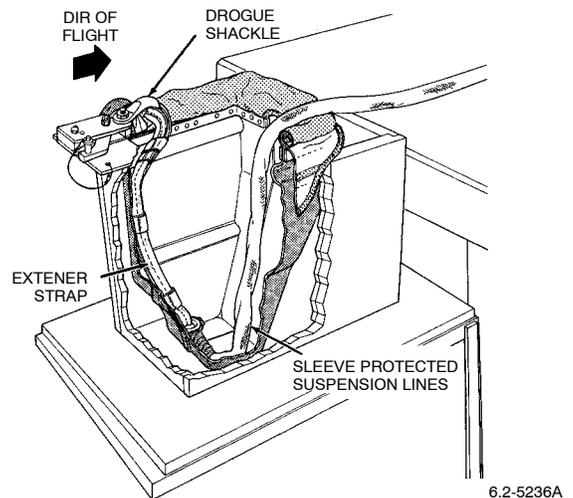

Figure 29. Route Drogue Extender Strap
a. Route drogue extender strap down along inside left rear corner of container. Pack sleeve-protected suspension lines in bottom of container from left to right along rear container edge (Figure 29). (QA)